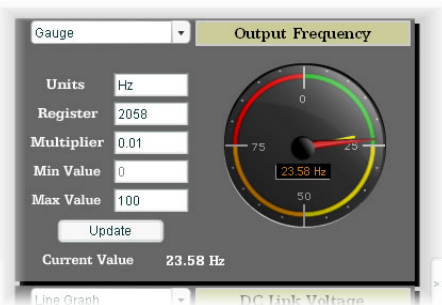

Figure 63: Gauge
Each of the gauge windows can be independently configured to display a user-defined register with a variety of flexible configuration options. While the behavior and presentation may vary slightly depending on the specific gauge chosen, all of the gauges share the following common elements (refer to Figure 63 for an example):
**Gauge:** Refer to Figure 63. This type of meter implements a rotary dial-type display format. The indicated value and units are shown numerically on the face of the gauge, and via the red indicator needle. The yellow needle shows the previous indicated value, thereby providing a simple historical reference. The "Min Value" attribute is not configurable; this gauge always starts at 0.